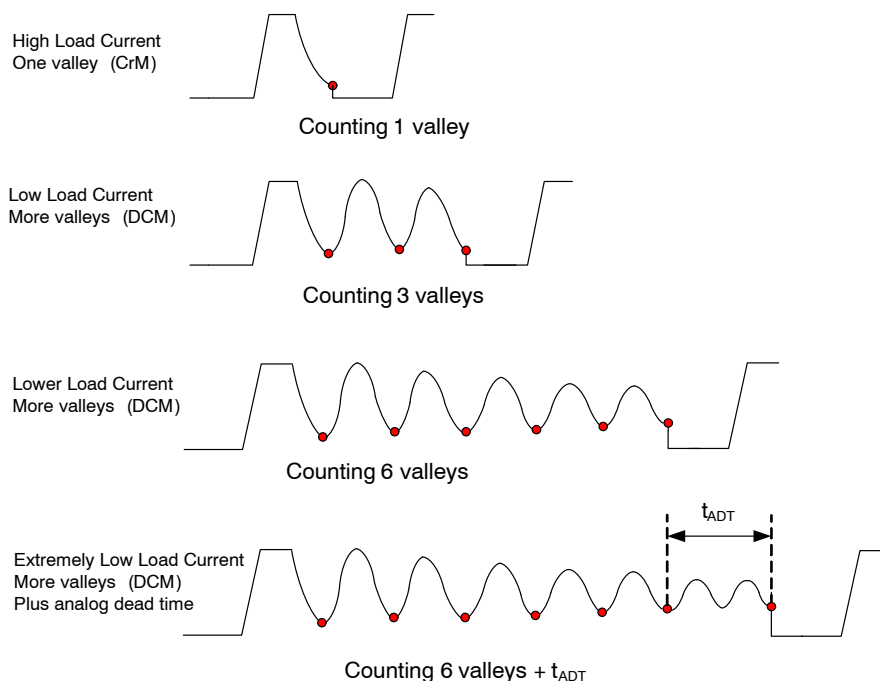
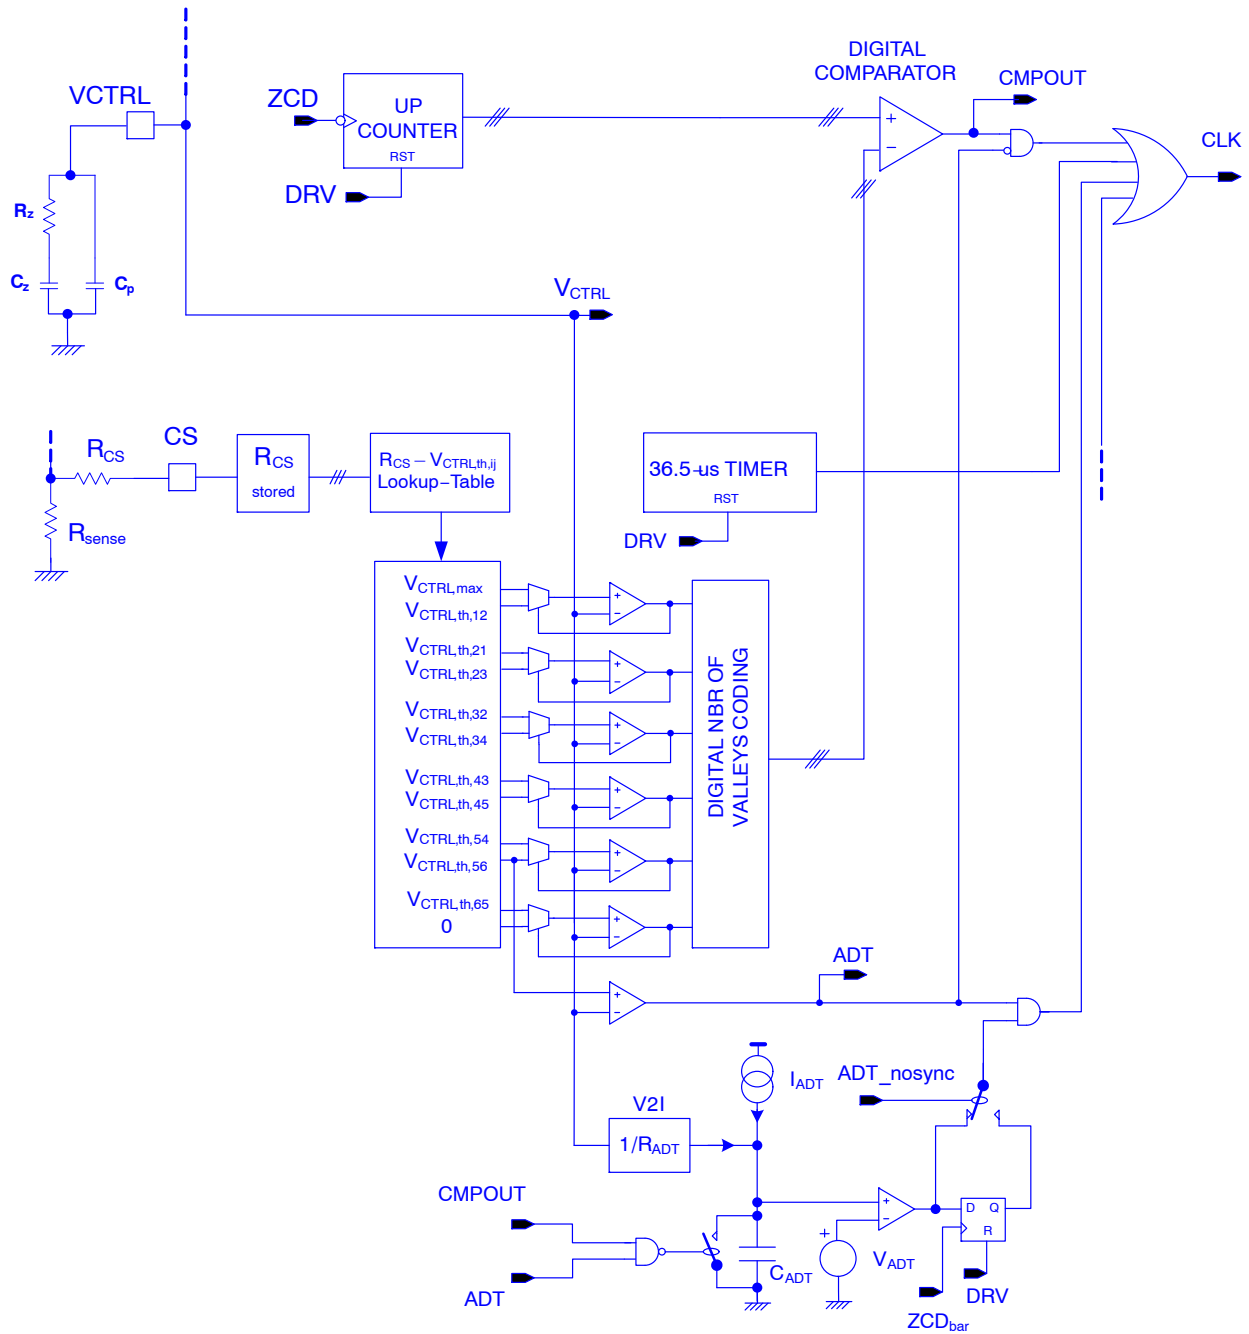

Figure 3. Valley Switching Operation in CrM and DCM Modes Seen Through Power MOSFET Drain Voltage
Figure 4. Valley Count Turn-on Block Diagram
- **Valley Count Frequency Fold-back:** NCL2801 is designed to drive PFC boost stages in so-called Valley Count Frequency Fold-back (*VCFF*). In high load current condition, the circuit classically operates in *Critical conduction Mode (CrM)* also called 1st valley switching. When output power is decreasing, if a threshold is reached (determined by sensing the CS pin impedance during initial power up), a dead time based on a number of valleys is added. The number of valleys will increase, each time a dead time window (based on V_{CTRL} value) is entered. By construction, this counting process will avoid valley hopping during the mains voltage period. If the output power continues decreasing and the 6th valley is reached, extra “analog” dead time will be added based on a voltage ramp (see Figure 4). On-time will be synchronized with a valley. A timer will clamp the total switching period to not exceed 36.5 μ s (the switching frequency will never go under about 27.4 kHz). The switching frequency depends on output voltage, input voltage, and boost inductor value, and increases as the load power increases. Hysteresis is added to the V_{CTRL} control windows to avoid valley hopping during steady state conditions. *VCFF* maximizes the efficiency at both nominal and light load. Similarly to *FCCrM* controllers, an internal circuitry allows near-unity power factor even when the switching frequency is reduced.
valleys between end of inductor demagnetization and power MOSFET turn-on determines the dead time value). After counting is done, the power MOSFET turns on at drain voltage valley. When 6th valley is reached and VCTRL voltage stays under 0.77 V, an extra “analog” dead time is added based on a voltage ramp (see Figure 4). The added analog dead time t_{ADT} is based on 0.77 V minus VCTRL value. t_{ADT} will be equal to zero when $(0.5\text{ V} - V_{CTRL}) = 0\text{ V}$ and will increase monotonically versus VCTRL decreases while VCTRL is under the 0.77 V threshold corresponding to $V_{CTRL,th,56}$. The analog dead time added t_{ADT} will equal typically 20 μs when $V_{CTRL} = 0.5\text{ V}$.
As illustrated in Figure 3, under high load conditions, the boost stage is operating in CrM (only one valley is counted before turning on the power MOSFET). The second example shows a DCM state of operation where three valleys have been counted before turning on the power MOSFET. The third example shows a DCM state with lower output power than the previous one where five valleys have been counted before turning on the power MOSFET. The fourth example shows how additional dead time is added after 6th valley.
means of counting the falling edges of the ZCD signal until the counter reaches the number of valleys set by the window in which the VCTRL pin voltage is (see Figure 4). The 3-bit counter allows to work “Valley synchronized” up to six valleys. When the 6th valley is reached, and VCTRL is lower than 0.770 V ($V_{CTRL,th,56} = 0.770$ V whatever frequency foldback threshold setting), an additional analog dead time will be added to the 6 valleys dead time and there will be valley synchronization turn-on of the power MOSFET ($ADT_nosync = 0$ by default) based on falling edge of ZCD signal. The total dead-time (number of valleys and extra analog dead-time) will not exceed 36.5 μ s. As a result of this timer the minimum switching frequency will not go under 27.4 kHz.
There will be a different DCM to CrM threshold than CrM to DCM making an hysteresis to avoid valley hopping (see Table 7 and Figure 4).
of Table 7 that $V_{CTRL,th,56}$ which is the V_{CTRL} threshold at which we force counting six valleys, has always the same value. This threshold is also called $V_{CTRL,ADT}$ because when V_{CTRL} pin voltage falls under this threshold, an analog dead-time starts to be added to the dead-time determined by counting six valleys. The lower V_{CTRL} pin voltage goes under $V_{CTRL,ADT}$ threshold, the more analog dead time is added. An example on how the analog dead time can be added is shown in the circuit of Figure 4 and the correspond power MOSFET drain voltage is shown in Figure 3.